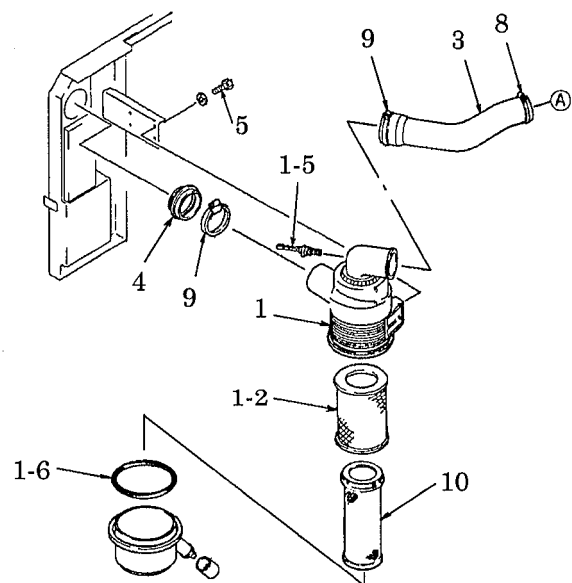

Fig. 8-3 Removing air cleaner
(See Fig.8-3.)
- (1) Pulling out hose (3) (See Fig.8-3.).